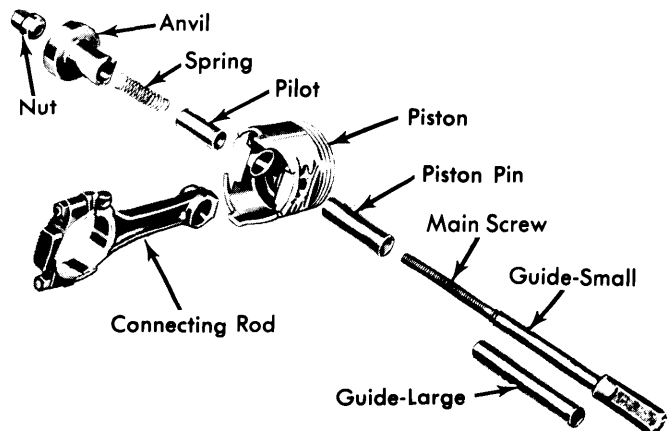

Fig. 10 Exploded View of Piston Pin Removal & Installation Tool
**Removal** — Use suitable tool for piston pin removal as follows: Install pilot on main screw (see Fig. 10) and install screw through piston pin. Install anvil (with spring removed) over threaded end of main screw with small end of anvil against piston boss. Install nut loosely on main screw and place assembly on a press. Press piston pin out of connecting rod. Remove tool from piston.